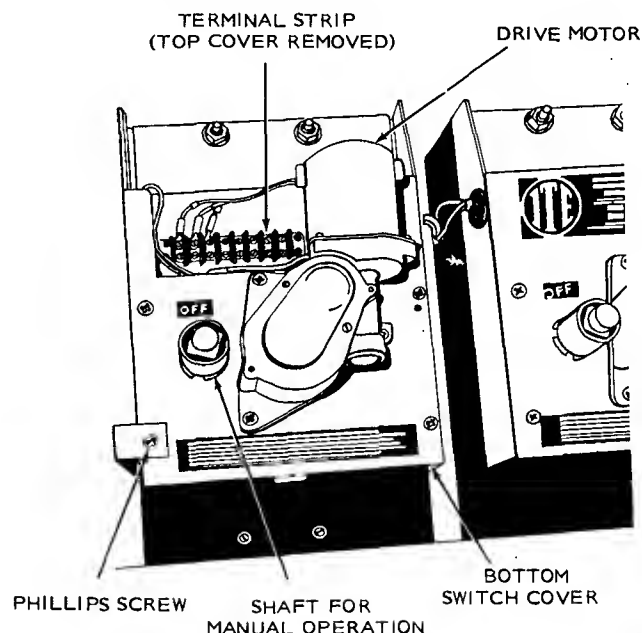

FIGURE 20. TRANSFER SWITCH WITH NAMEPLATE COVER REMOVED
9. Loosen the two top Phillip screws which hold the cover with the ITE nameplate. Slide cover up and off the transfer switch (Figure 20) to expose terminal block.
12. Remove the three Phillip screws while holding the motor and drive assembly. Pull assembly straight back and out (Figure 20).